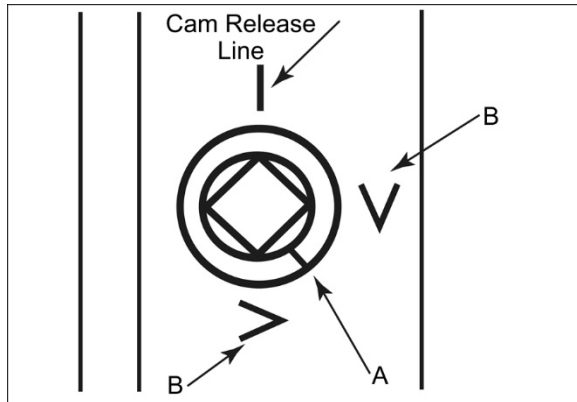

Figure 6-5
1. Support the chuck while turning three camlocks 1/4-turn counterclockwise using the chuck wrench from toolbox. See Figure 6-5. Line up the two marks for removal.
5. Lift chuck up to spindle nose and press onto spindle. Tighten in place by turning each camlock 1/4-turn clockwise. The index mark (A, Figure 6-5) on camlock should be between the two indicator arrows (B) when tight, as shown in Figure 6-5.
- If index mark (A) is not between the two arrows, i.e. the cam turns *beyond* the indicator arrows, then remove chuck and turn camlock stud IN one full turn.